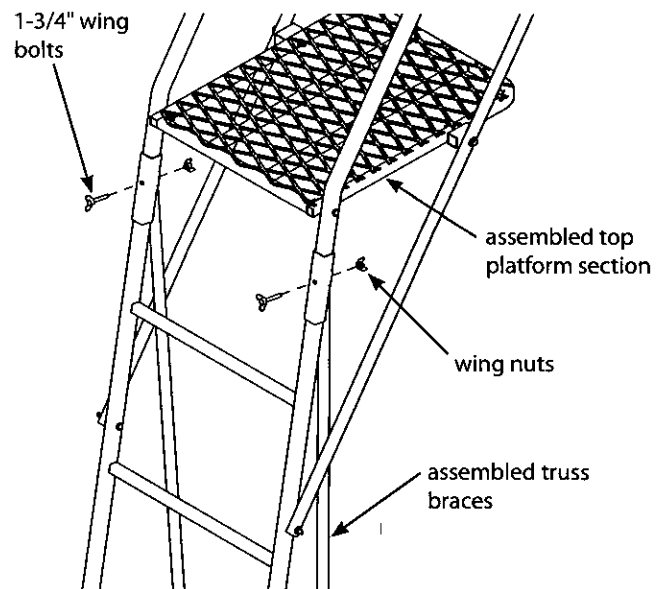

Figure 6
d. Secure the first and second ladder sections as well as the third and fourth ladder sections together using (4) provided 1/4-20 x 1-3/4" wing bolts and wing nuts. **SEE FIGURE 6.**